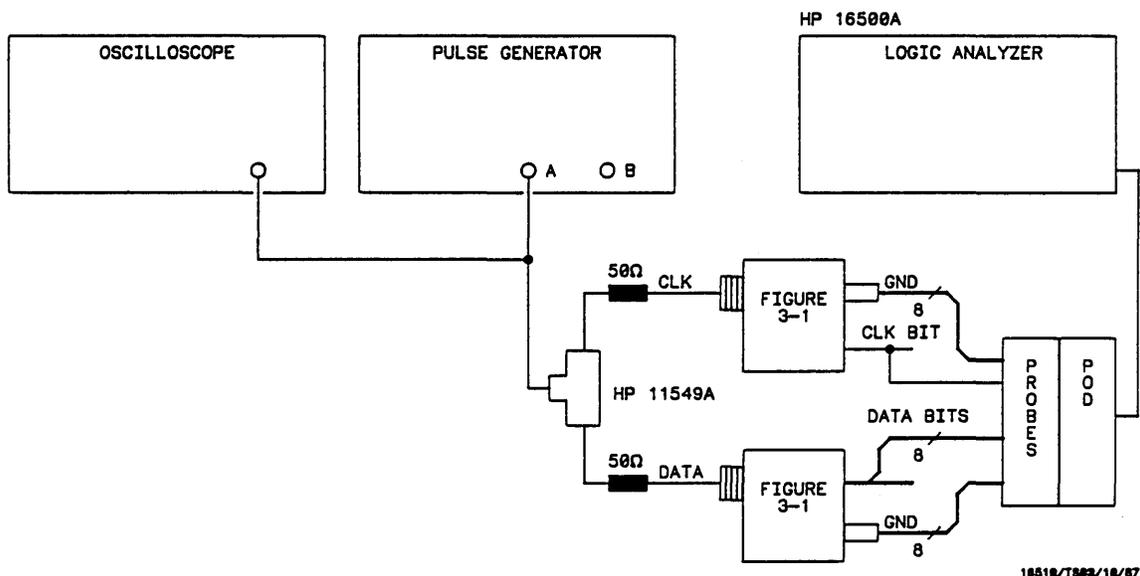

Figure 3-8. Setup for Clock, Qualifier, and Data Inputs Test 2
1. Connect the HP 16510A and test equipment as in figure 3-8.